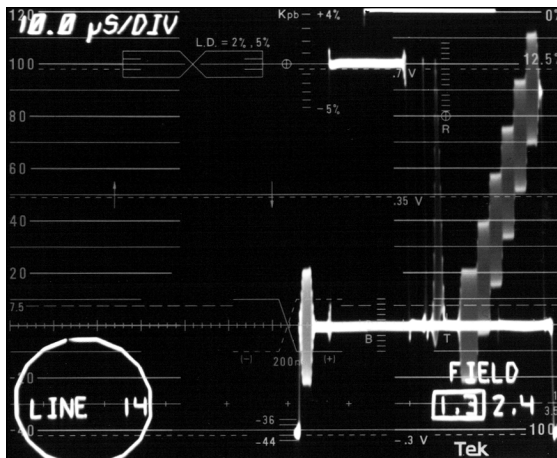

Figure 109. Video levels can be compared to the depth of modulation scale on the right-hand side of the graticule. Note the zero carrier pulse at 120 IRE.
**Waveform Monitor.** Most waveform monitors, including the 1780R and 1480, provide a depth of modulation scale on the right-hand side of the graticule. Use the variable gain to position the zero carrier reference pulse on the 0% mark at the top of the screen and sync tip on the 100% mark (see Figure 109). Verify that white level and blanking level occur at the prescribed points on the graticule scale. The voltage cursors can also be used for this measurement.